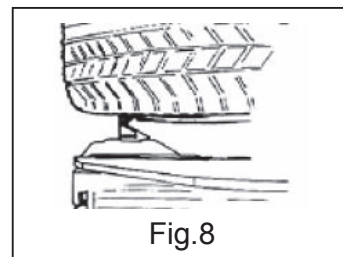

Fig.8
- Release the beads both sides of tire as tire changer manual stated, clamp the tire from outside (Fig.8). Depress the corresponding pedal to open the jaws till big enough for rim